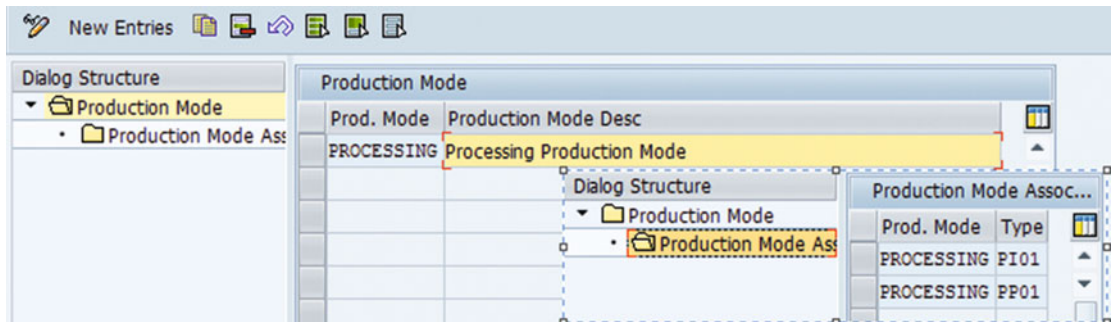

Figure 3-17. Configuration of production modes
2. Select New Entries (refer to Figure 3-17).